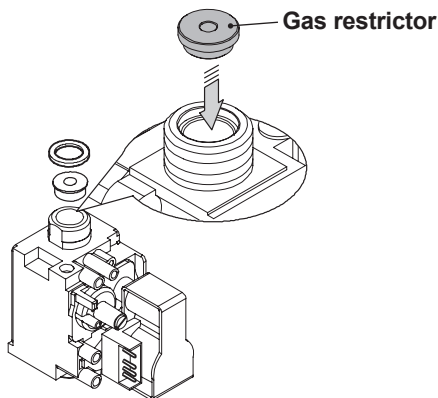

Fig. 8.2
- Carry out gas conversion by correctly replacing the gas restrictor (Fig. 8.2), referring to the "Technical Data" section pag. 32 (Inovia 25C), pag. 35 (Inovia 30C) and pag. 38 (Inovia 35C).